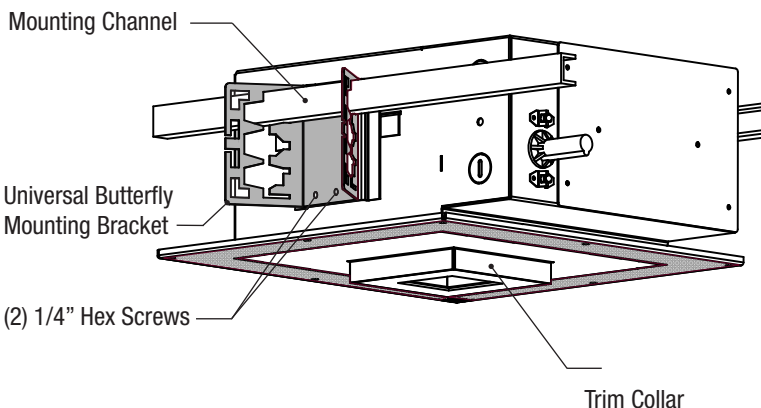

FIGURE 1
- Step 5.** ADJUST ELEVATION OF FIXTURE so that the edge of the TRIM OPTION will be flush with the surface of finished ceiling by loosening the two (2) 1/4" HEX SCREWS on UNIVERSAL BUTTERFLY MOUNTING BRACKETS and set accordingly **Fig 1**.
- Step 6.** Tighten the HEX SCREWS on both UNIVERSAL BUTTERFLY MOUNTING BRACKETS to secure fixture **Fig 1**.